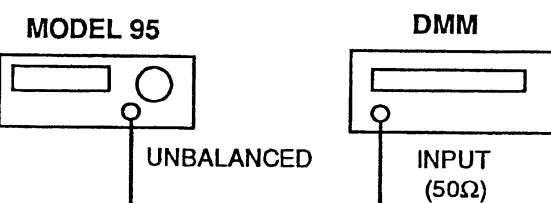

Figure 3-8. Amplitude Accuracy Setup
2. Connect the Model 95 and test equipment as shown in figure 3-8.